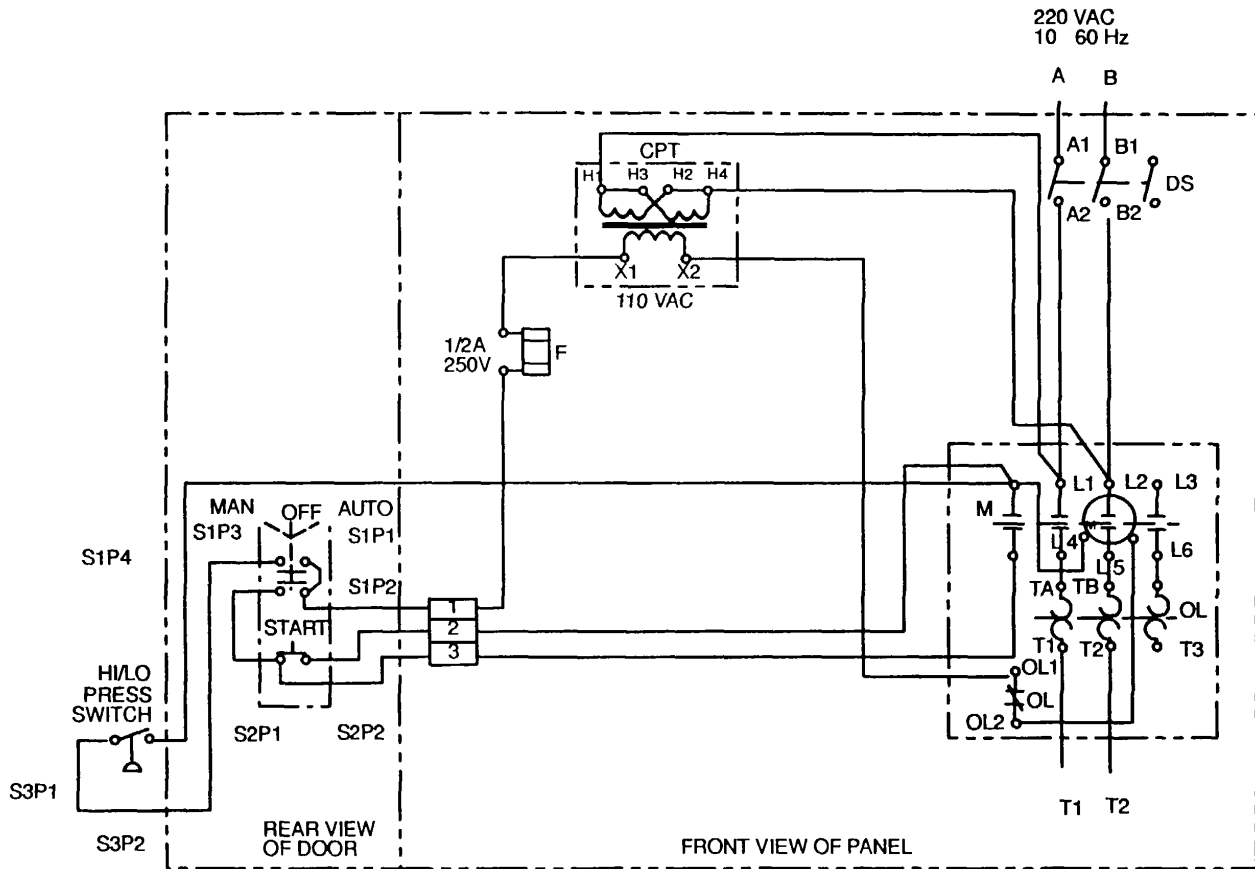

Figure 4-3. Drinking Water Pressure Set Motor Controller
- a. Close controller door and check line voltage coming in across points A1 and B1 (Figure 4-3) If voltage between lines is 0, power source is at fault If voltage is 220, go to step b
- b. Check line voltage to HI/LO pressure switch across points S3P1 and S3P2 (Figure 4-3) when MAN/OFF/AUTO switch is in AUTO. If voltage is 110, check switch continuity
- (1) Release pressure from pressure set
- (2) Check continuity across points S3P1 and S3P2
- (3) If continuity indicates open circuit, replace pressure switch
- c. Check voltage going out across points T1 and T2. If voltage is 0, check motor controller continuity using Figure 4-3 as given below If voltage is 220, pressure set is malfunctioning Repair or replace pressure set as given in paragraph 4-7 2 2.
- (1) After securing circuit breaker 11P15, open motor controller cover and clean by vacuuming or with electrician's brush
- (2) Visually inspect fuse contacts and connections for burns, looseness, and corrosion. Clean and tighten or replace damaged fuse contacts or connections Inspect wiring for breaks or other damage Replace wiring if necessary
- (3) After correcting condition, reapply power If motor controller does not operate, go to step (4)
- (4) Check disconnect switch voltage across points A1 and B2 and A2 and B1. If no voltage is present across one pair of points, replace disconnect switch. If voltage is present across both pairs of points, go to step (5)
- (5) Check relay voltage across points L1 and L5 and L2 and L4 If a voltage is present only across one pair of points, replace relay If no voltage is detected between both pairs of points, go to step (6).
- (6) Check transformer voltage across points X1 and X2 If voltage is 0, replace transformer If voltage reading is 110, go to step (7)